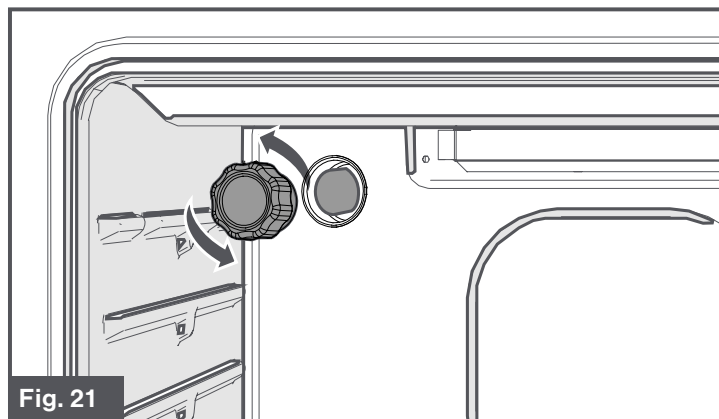

Fig. 21
3. Remove the glass cover of the lamp-holder. (Fig. 21)